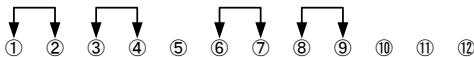

Fig . 2
* The color combination is ether item 1 or item 2.
- Make sure that the rear-panel output terminals and control terminals are connected with jumpers as shown Fig. 2.